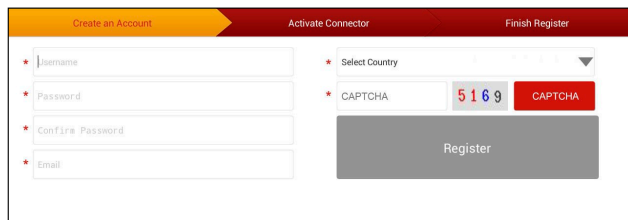

Fig. 5-6
1. If you are a new user, tap “New Register” to enter registration page. See Fig. 5-6.
In Fig. 5-6, fill in the information in each field (Items with * must be filled). After inputting, tap “Register”, a screen similar to the following will appear: